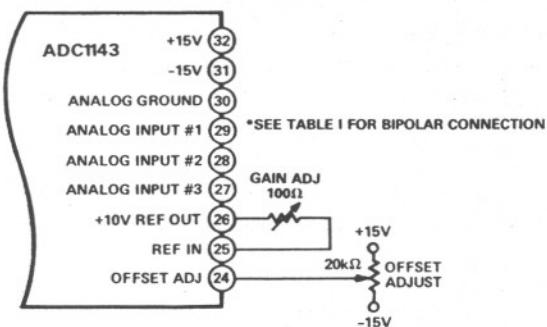

Figure 3. Offset and Gain Calibration
See Figure 3 for proper connections.
For operation, the only connections to the ADC1143 that are necessary are the power supplies, internal or external reference, input voltage pin programming, convert command and digital output. Refer to Table I for input pin programming and Figure 3 for offset and gain calibration.
Initial offset and gain errors can be adjusted to zero by potentiometers as shown in Figure 3. Proper offset and gain calibration requires great care and the use of extremely sensitive and accurate reference instruments. The voltage reference used as a signal source must be very stable and have the capability of being set within ±1µV of the desired value. The potentiometers should be good quality cermet type. Multiturn potentiometers having ten to fifteen turns and ±100ppm/°C temperature coefficients will be adequate. The temperature coefficient contribution will be less than ±0.1ppm/°C.
*If internal reference is used, Pins 25 and 26 must be connected together through a 100Ω potentiometer or 49.9Ω fixed resistor (see Figure 3 and Gain Calibration Section).